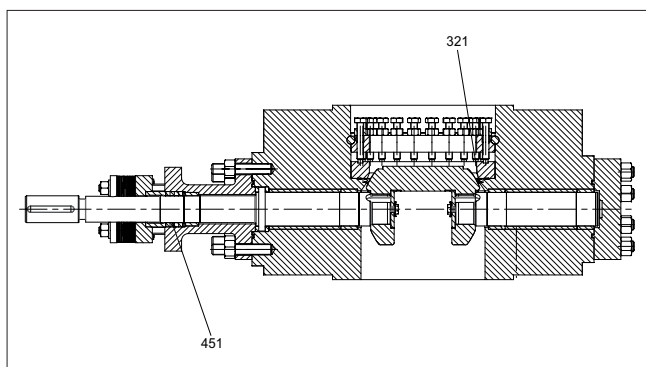

Fig. 14 Replacement of metallic sealing element and packing rings
Check the valve regularly for its tightness. We recommend replacement of the metallic sealing element (321) and the packing rings (451) on demand or in critical applications after a period of two years at most, see Fig. 14.